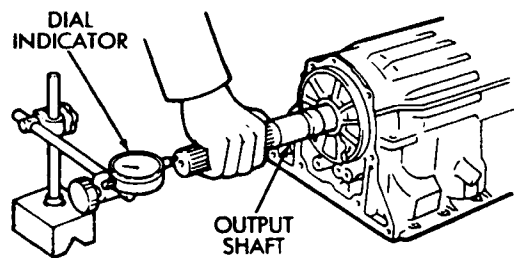
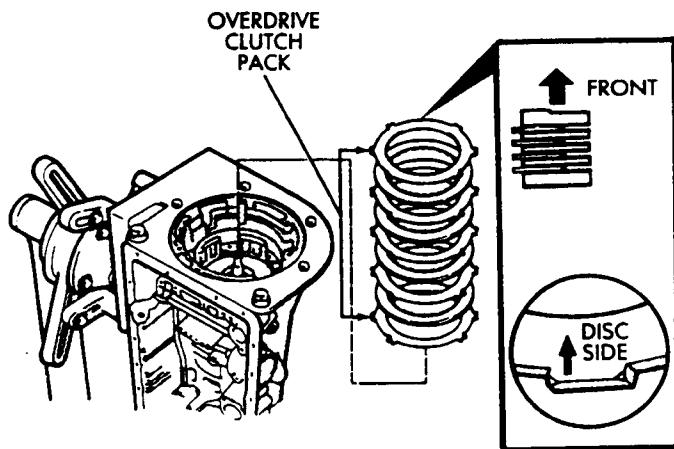

Fig. 40 Checking Output Shaft End Play
Fig. 41 Install Overdrive Clutch Pack
(48) Check output shaft end play with dial indicator (Fig. 40). End play should be .27 to 0.86 mm (.0106 to .0339 in).
(49) If output shaft end play is incorrect, one or more of installed components is not seated. Reassemble as necessary and check end play again.
(50) Install overdrive clutch pack (Fig. 41). Install thickest clutch plate first. Rounded edge of plate faces